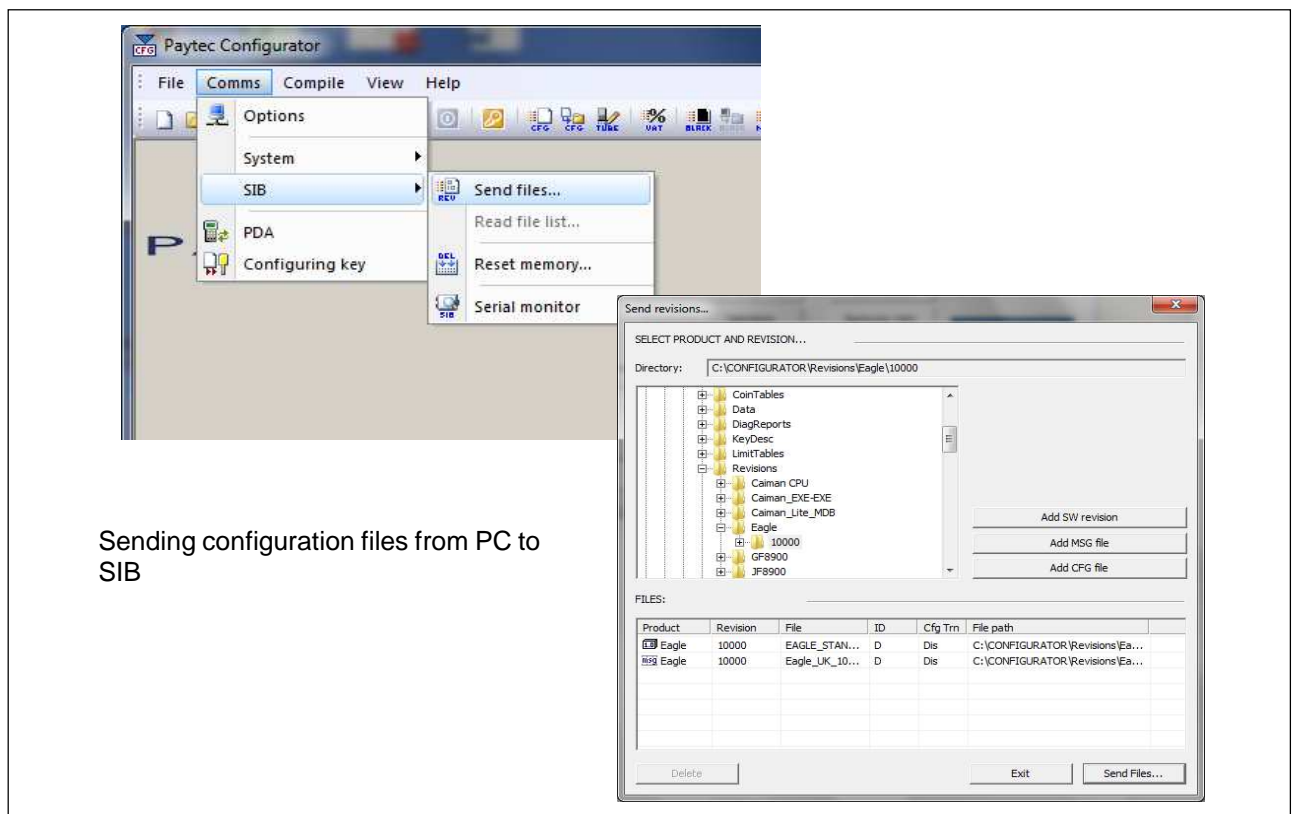

Fig.22
- 2) transfer firmware revision file from the PC to the SIB via Paytec Configurator (see Fig.22);